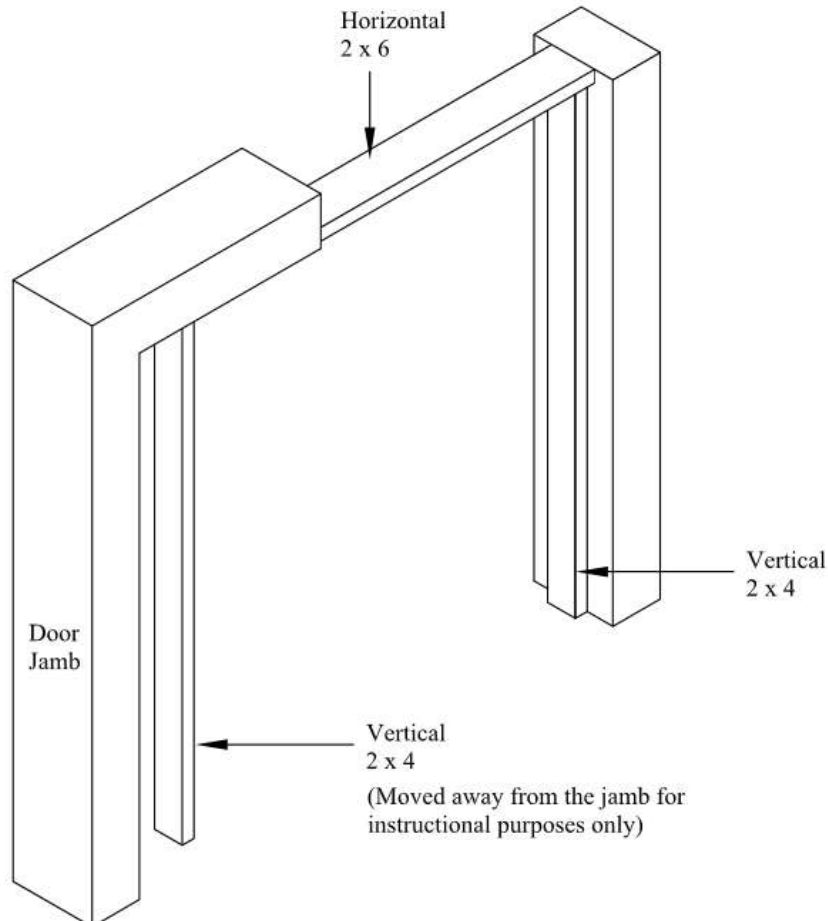

FIGURE 1
2. Install the lumber. (See Fig.1).